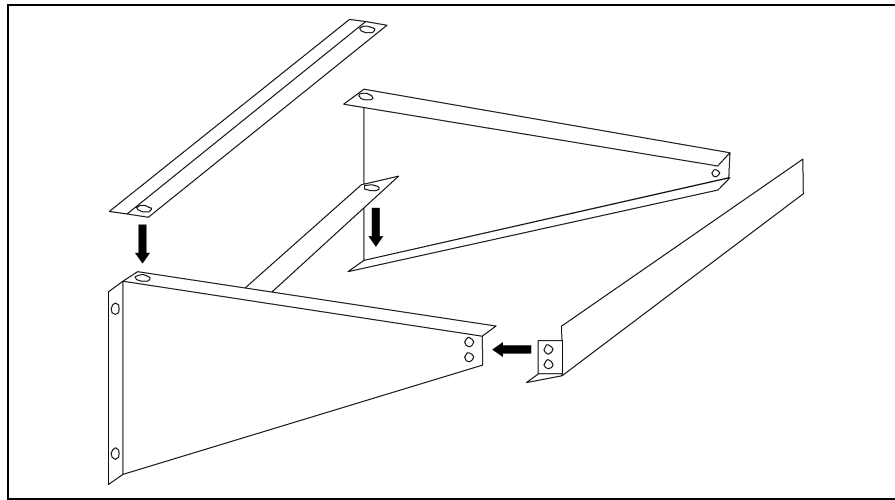

Figure 3E
6. Assemble heater support bracket as shown in Figure 3E on Page 16.